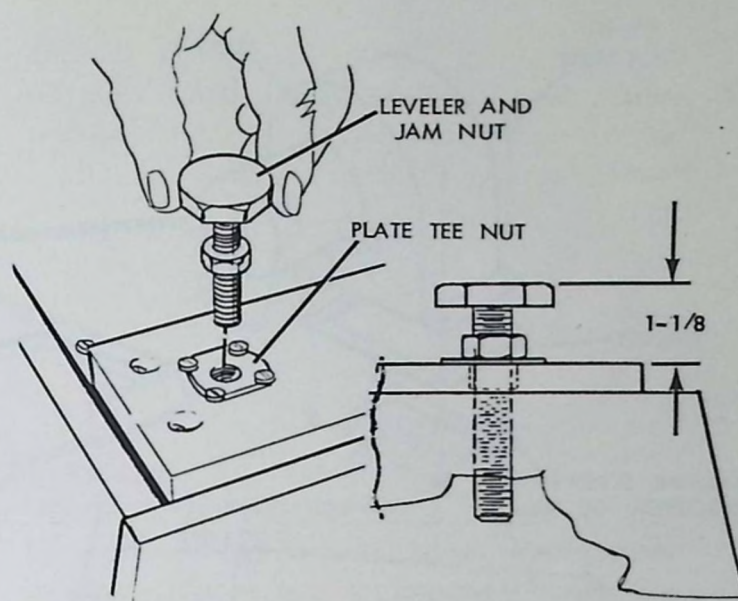

FIGURE 11
15. Install the levelers and jam nuts at each corner. (Figure 11)
16. Set the levelers and jam nuts to the dimension shown. (Figure 11)